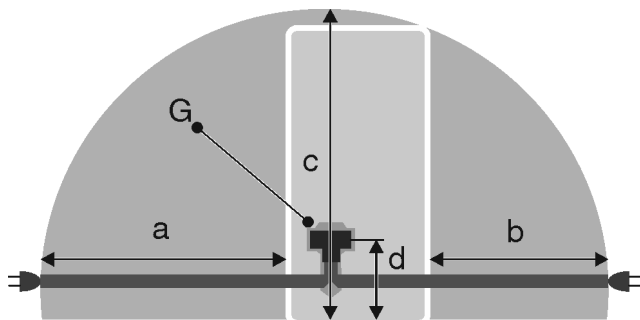

Fig. 20 *
- The socket is not located behind the appliance but in areas a or b Fig. 20 (a, b, c).
- ▶ Insert the appliance plug Fig. 20 (G) into the back of the appliance. Ensure that they latch into place.